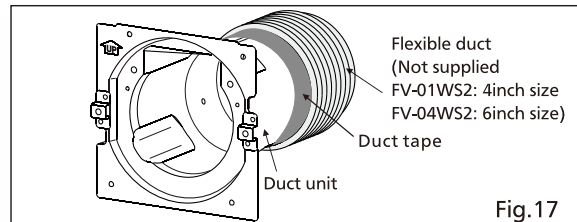

Fig.17
- Slip duct unit into flexible duct (not supplied) and secure it with duct tape. (Fig.17)